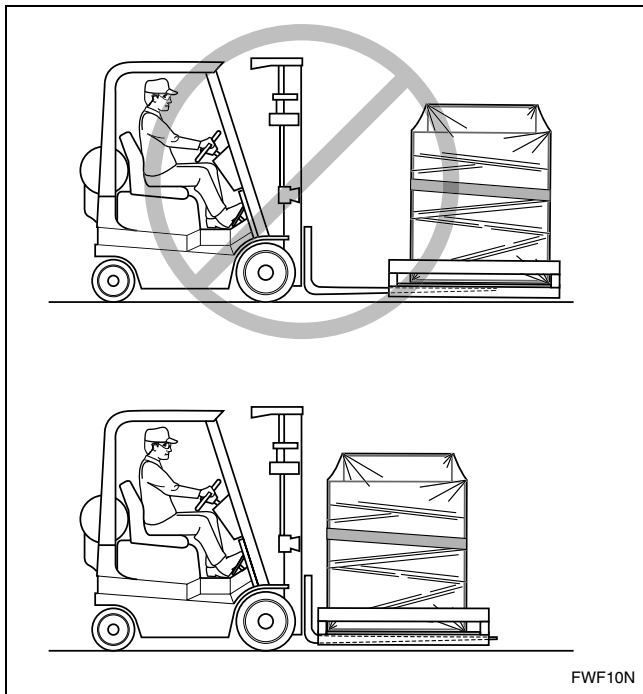

Figure 2
2. Adjust the forklift arms to their maximum length and width and insert them all the way under the center of the skid. Refer to *Figure 2*.